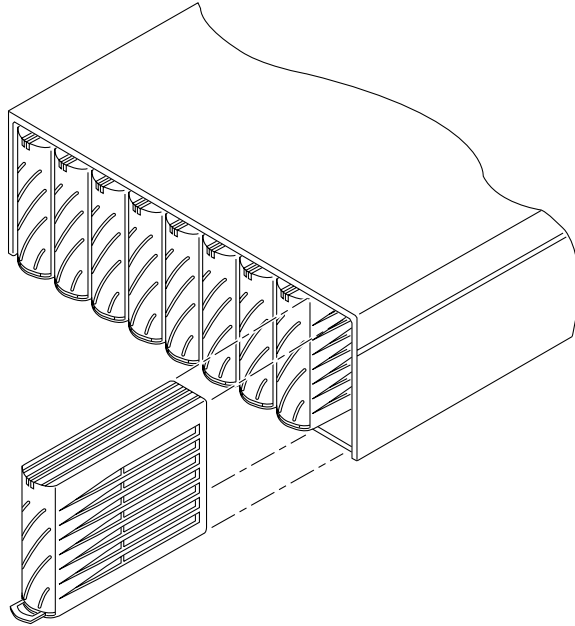

FIGURE 5-4 Removing a Disk Drive
6. Remove the disk drive from the array (FIGURE 5-4).